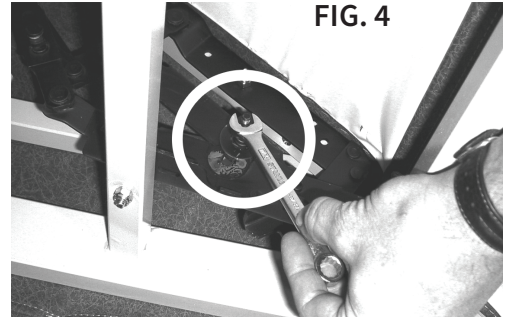

FIG. 4
1. Place chair on its side in the #2 (Recline) position. Each chair has a left and right recline mechanism with two tension adjustments on each side, four total. Tension adjustment A controls the footrest and legrest action. Tension adjustment B controls the recline action from the #2 to #3 position (FIG. 4).